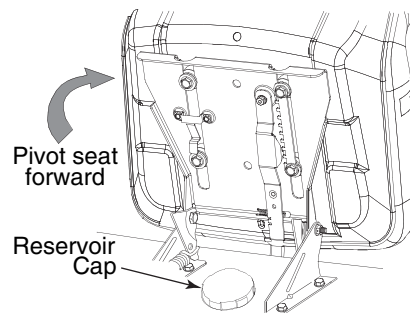

Figure 6-2
- Pivot the operator's seat forward and clean the reservoir cap and the area around the cap to prevent debris from contaminating the transmission oil. See Figure 6-2.
- Pull back the lock collar of the nozzle adapter and push the adapter onto one of the deck wash nozzles at either end of the mower deck. Release the lock collar to lock the adapter on the nozzle. See Figure 6-2.